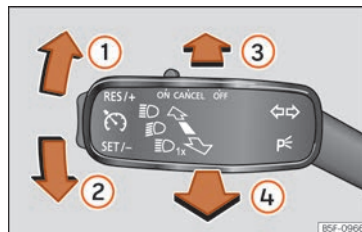

Fig. 91 Turn signal and main beam lever.
- From the base position, press the turn signal and main beam headlights lever forwards » **Fig. 91**  When the lamp  is displayed on the instrument panel display, the main beam assist is switched on.
- **OR:** while the main beam is on, pull the turn signal light and main beam headlights lever forwards » **Fig. 91** .